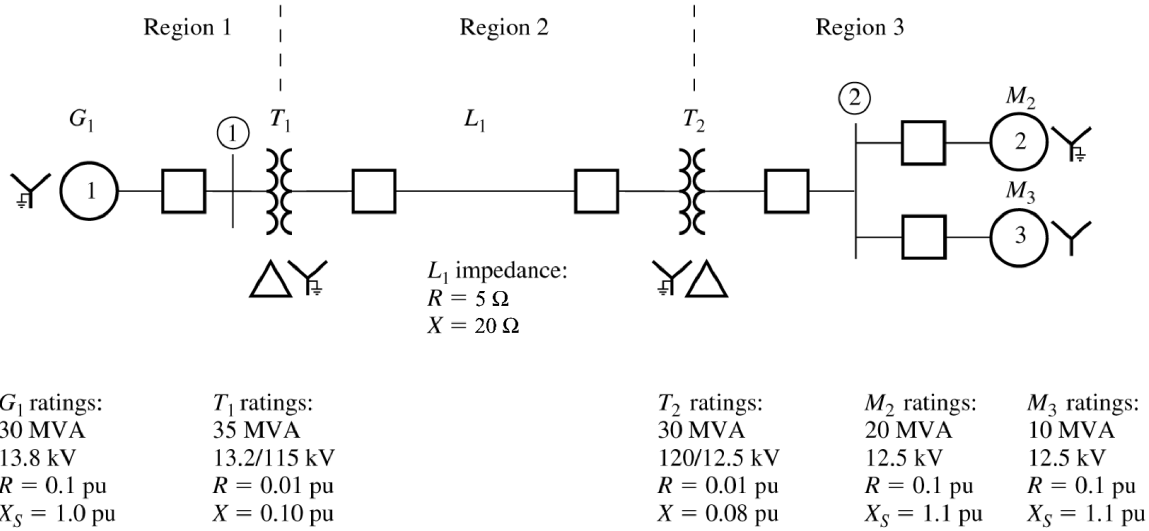

Figure P11-2 One-line diagram of the power system in Problems 11-9 and 11-10.
- 11-9.** Figure P11-2 shows a one-line diagram of a simple power system. Assume that the generator G_1 is supplying a constant 13.8 kV at Bus 1, that load M_2 is consuming 20 MVA at 0.85 PF lagging, and that load M_3 is consuming 10 MVA at 0.90 PF leading. Calculate the bus admittance matrix \mathbf{Y}_{bus} for this system, and then use it to determine the voltage at Bus 2 in this power system. (*Note:* assume that the system base apparent power is 30 MVA.)